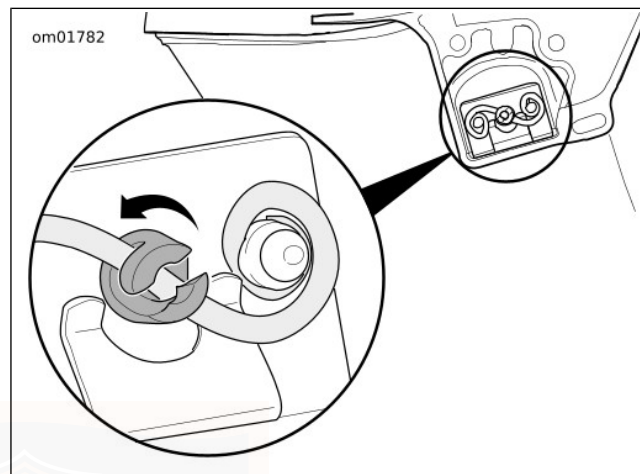

Figure 59. Mounting Stud Installation (cutaway view)
3. See Figure 59. Push in the mounting studs and rotate a quarter turn clockwise to engage the wireform latch.